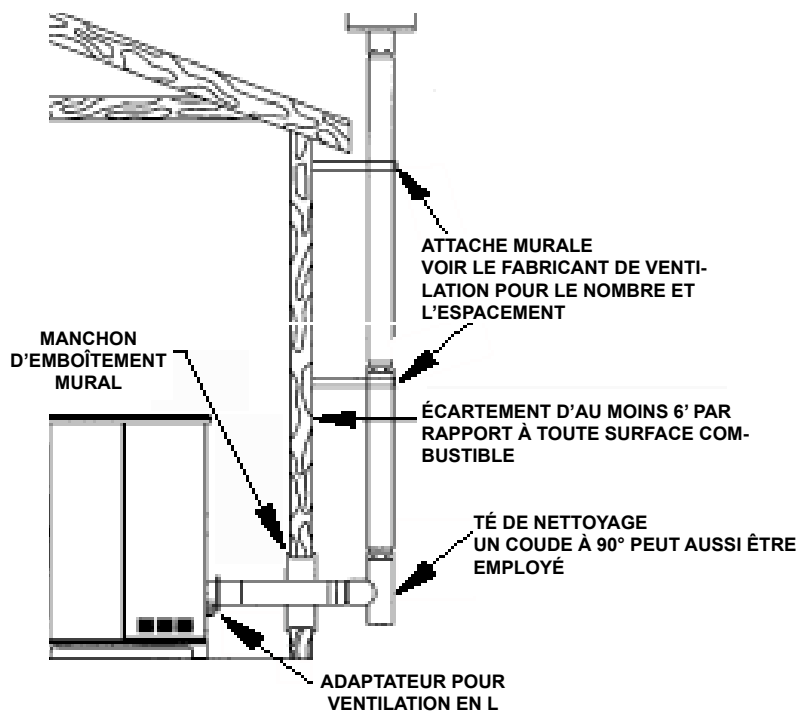

FIGURE 5
A. HORIZONTEMENT AU TRAVERS D'UN MUR (Figure 5)